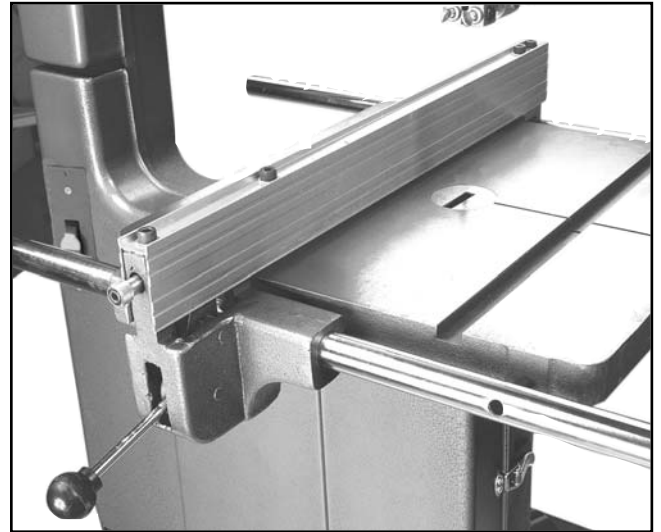

Figure 14. Fence mounted on rails.
3. Slide the fence onto the fence rails as shown in **Figure 14**.